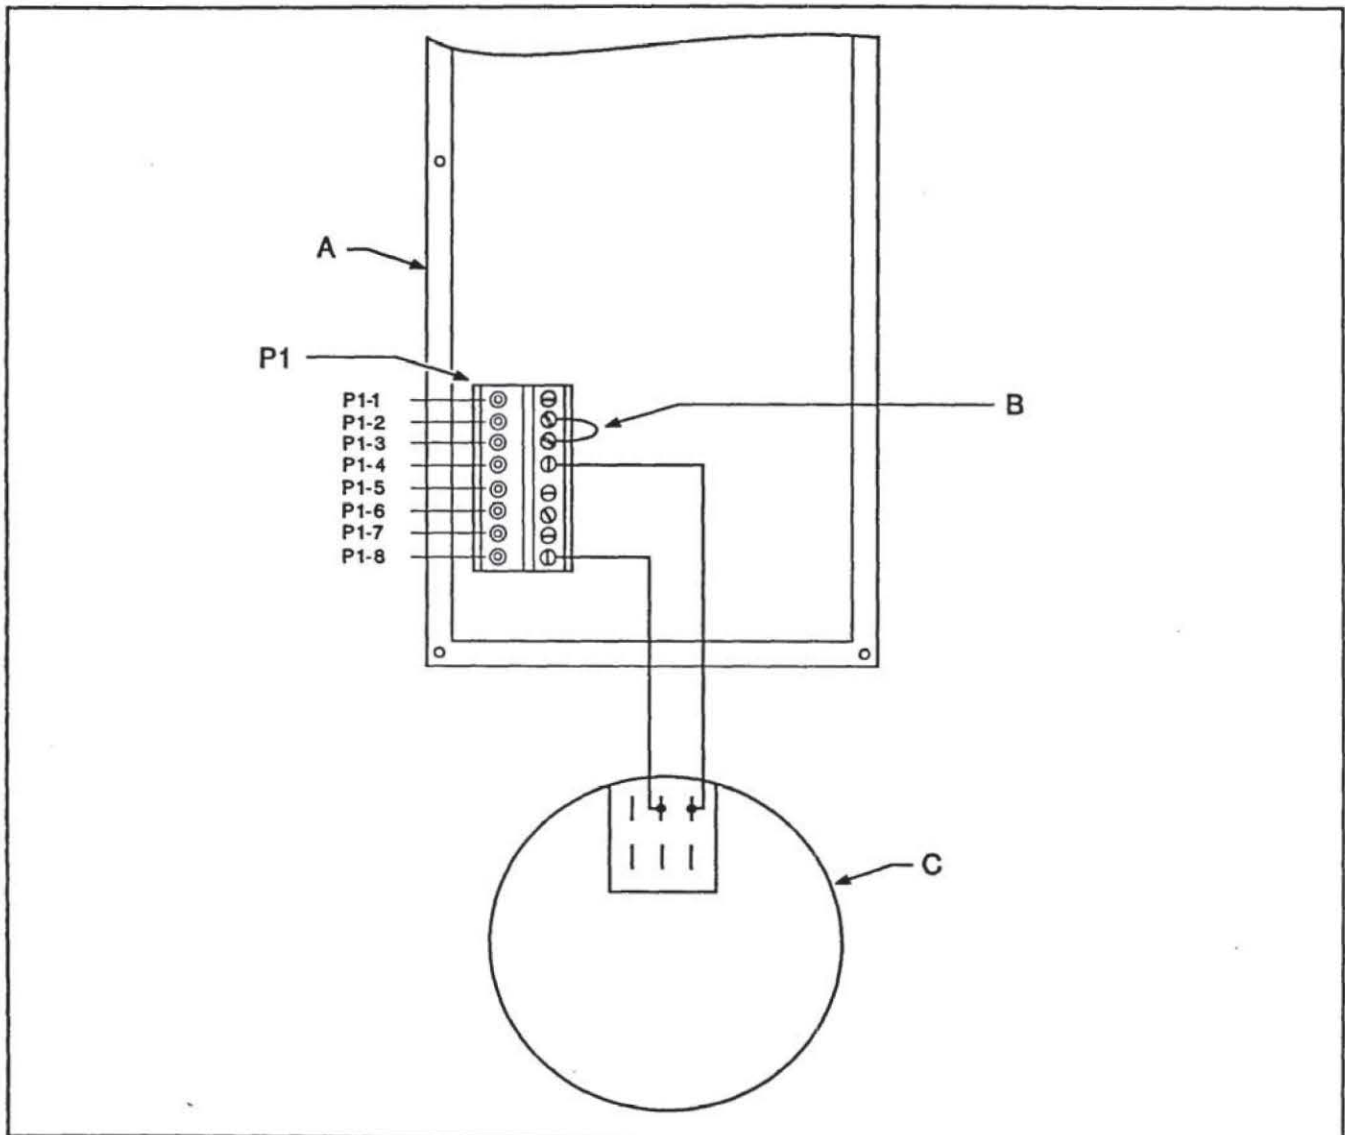
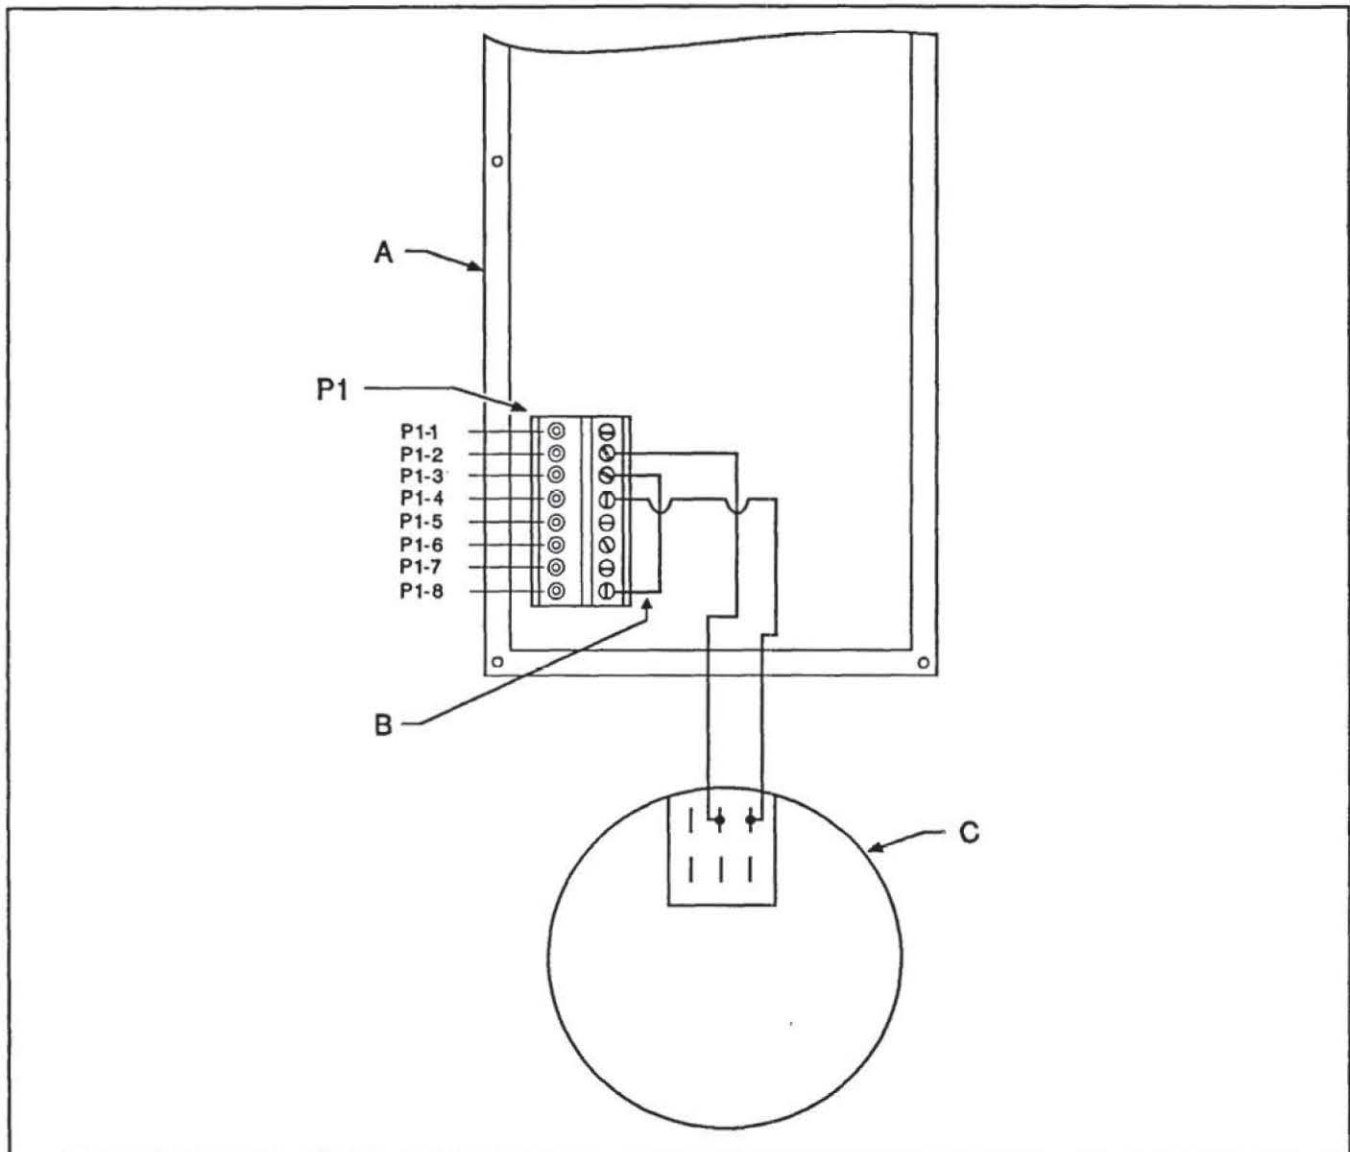

Figure 3.18 - Current sourcing keyed lock out switch
Figure 3.19 - Current sinking keyed lock out switch
**NOTE:** When both the Keyed Lock Out Switch and Rotary Select Switch are installed, both must be connected as either sourcing devices or as sinking devices. Figure 3.18 shows the wiring for the Keyed Lock Out Switch as a sourcing device. Figure 3.19 shows the wiring for the switch as a sinking device.
- **Switch Used as a Sourcing Device** - Use an 18-22 gauge wire (customer supplied) to make the connections shown in Figure 3.18. Make sure to install the jumper from PC40 connection P1-2 to P1-3.
- **Switch Used as a Sinking Device** - Use an 18-22 gauge wire (customer supplied) to make the connections shown in Figure 3.19. Make sure to install the jumper from PC40 connection P1-3 to P1-8.